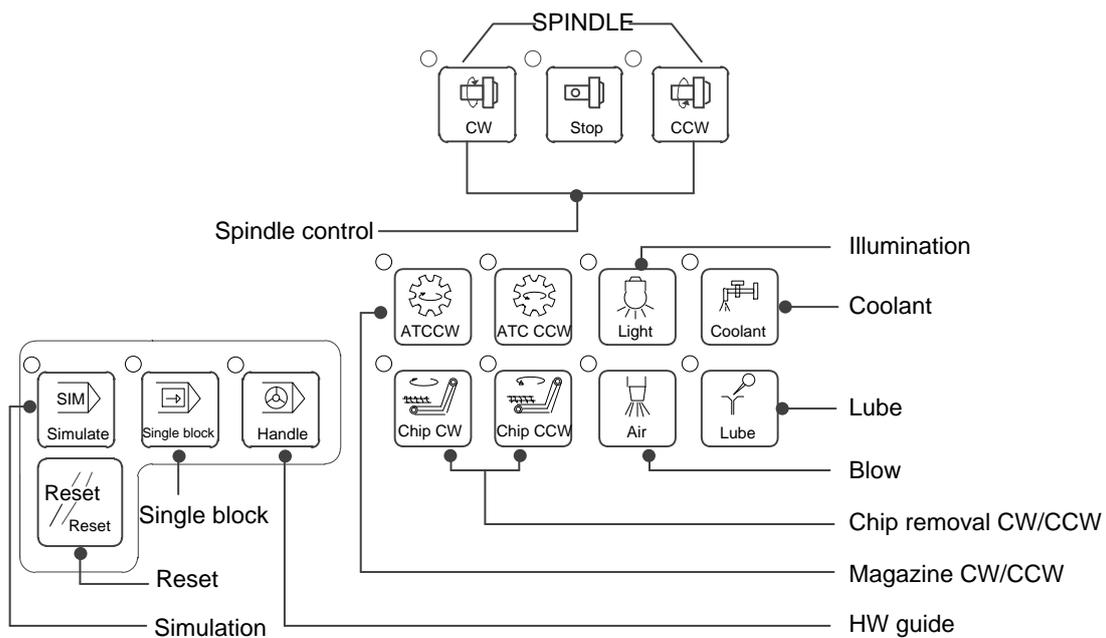

Fig. 1-10 Auxiliary function keys
- Auxiliary function keys area. See Fig. 1-10 for details.